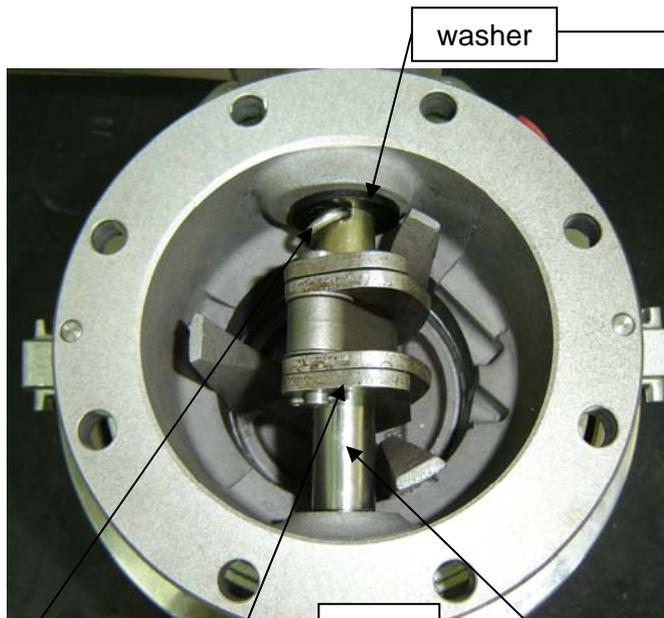

FIG 11
- 2- Open the coupler and remove the R-clip (0945) from the operating shaft (see FIG 11). Pull the operating shaft assembly out of the body. The spacer tube, cam, washer, poppet and adaptor ring will fall free of the shaft. (see FIG 12) Inspect shaft and ensure it is not bent. Remove and check the tetra bush in the body that supports the small end of the shaft.